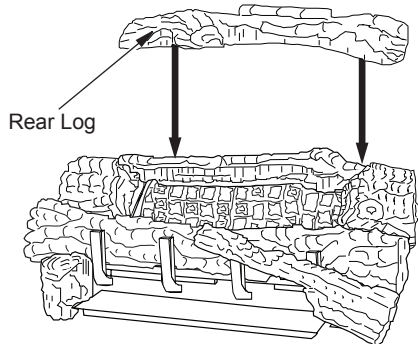

Figure 45 - Installing Rear Log
9. Rest rear log in back corner sections of chassis assembly as shown in Figure 45.